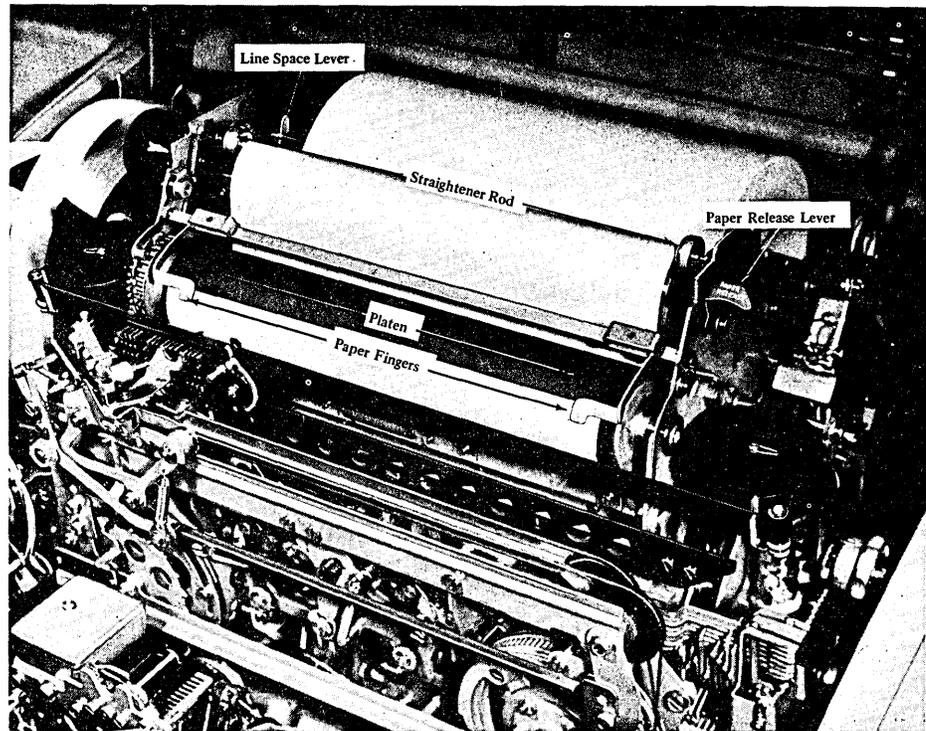

Figure 15. Type 35 ASR Paper Insertion and Movement Controls
3. Push the paper release lever back (Figure 15), raise the paper fingers, and pull the remaining paper out from under the platen.